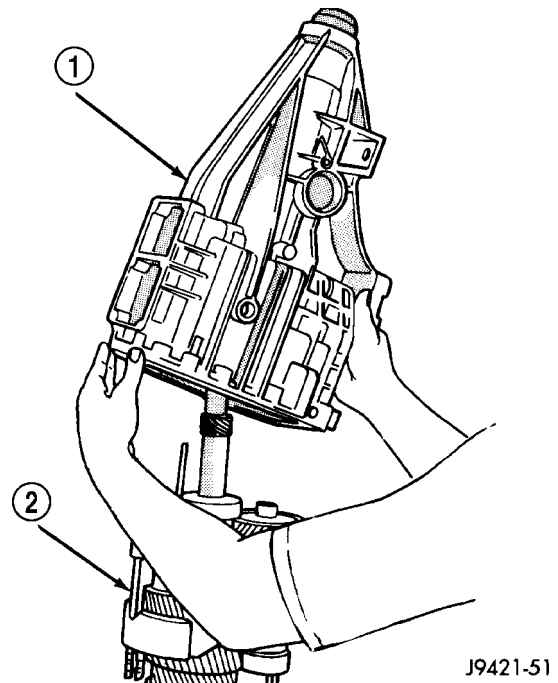

Fig. 30 REAR HOUSING
(3) Lift rear housing up and off geartrain (Fig. 30).